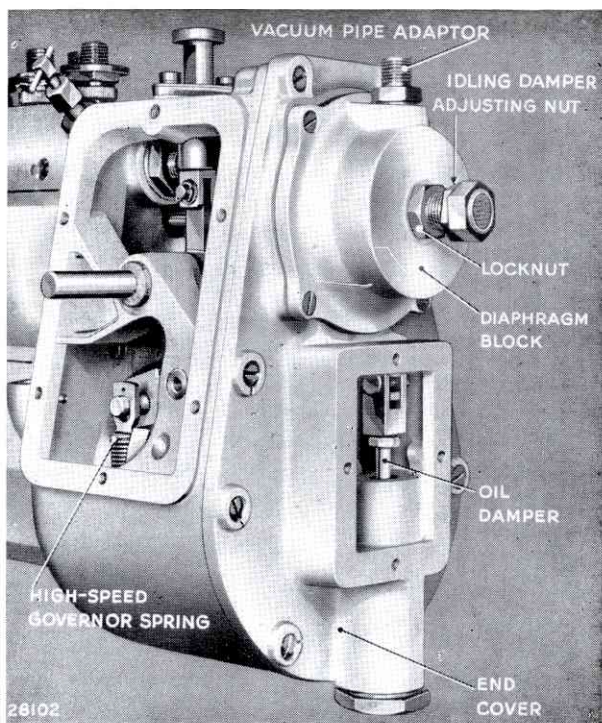

FIG. 81. THE GOVERNOR HOUSING
2. Plug the vacuum pipe adapter (Fig. 81), with finger and release the stop lever. The control rod should not return to the open position. If it should do so, the leakage may be due to the following causes :
1. Screw out the idling damper (Fig. 81), so that it is clear of the diaphragm when the engine is idling.